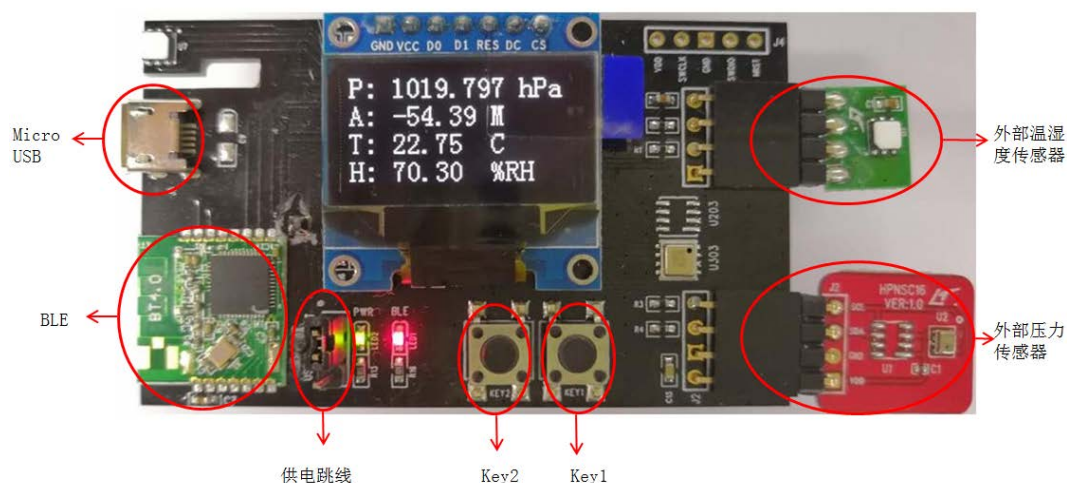

Figure 1
1. EVB 有 2 种供电方式: 3 节 7 号电池及 USB 供电, 图 1 跳线方式为电池供电。
There are two modes of power supply for EVB. One is using 3 AAA battery, and the other is using USB port. The Figure1 is wire jumper as battery power supply.